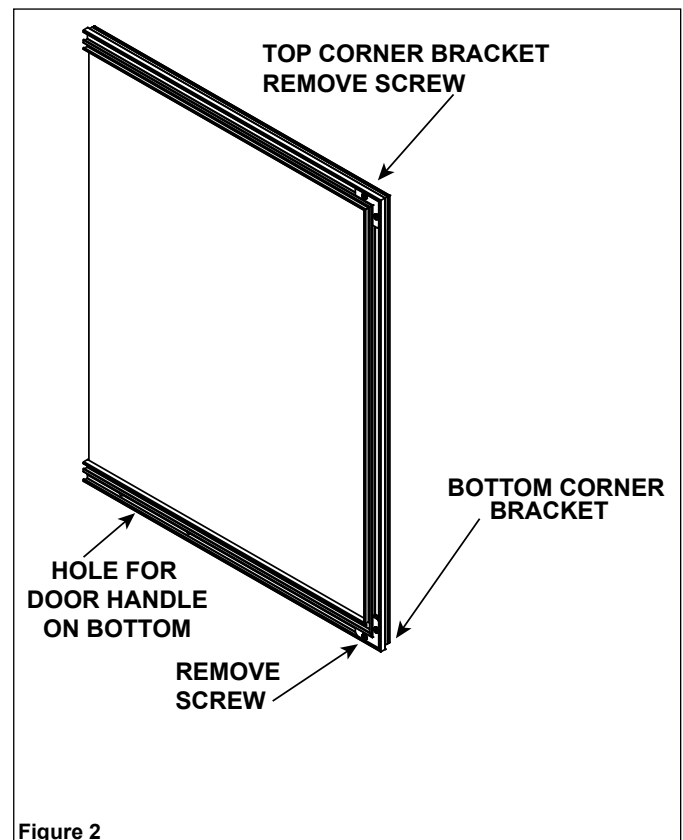

Figure 2
3. Remove one set screw from top of top corner bracket and one from bottom of bottom corner bracket ( see figure 2). Discard the removed set screws.
5. Slide handle assembly on to bottom of door and tighten screws. See Figure 2.